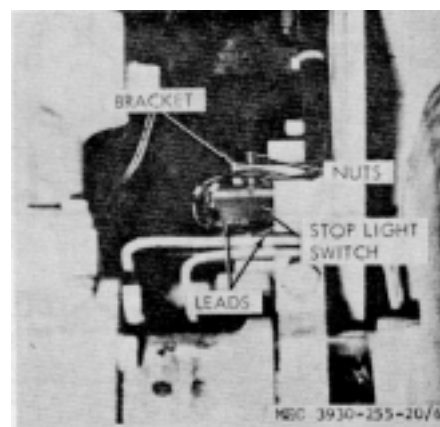

Figure 6. Stoplight switch.
- (1) Remove floor plate (para 50).
- (2) Inspect that wires labeled (+) and (33) to switch (fig. 6) are connected to terminals marked "A" and wires (9) and (10) are connected to "B" terminals. If not, connect them correctly before proceeding.
- (3) Connect a voltmeter lead to each "A" terminal, and operate switch button by hand. If meter reads system voltage with button free, and zero voltage with button pressed, switch is operative. Test at "B" terminals for opposite results. Continue to (4) below.
- (4) With voltmeter still connected as in (3) above, operate pedal manually. If operation of pedal does not give same results, switch position must be adjusted so brake application closes switch at "A" terminals and opens switch at "B" terminals, reversing this on releasing brake pedal.
*b. Adjustment.* Disconnect leads, and loosen two nuts shown in figure 6. Adjust switch position by turning it in or out of threaded hole in bracket so switch lights spotlight before braking action begins, and light goes out before pedal reaches top of travel. Tighten nuts.
- (1) Remove floor plates (para 50).
- (2) Remove outermost nut (fig. 6) and leads, and unscrew switch from bracket.